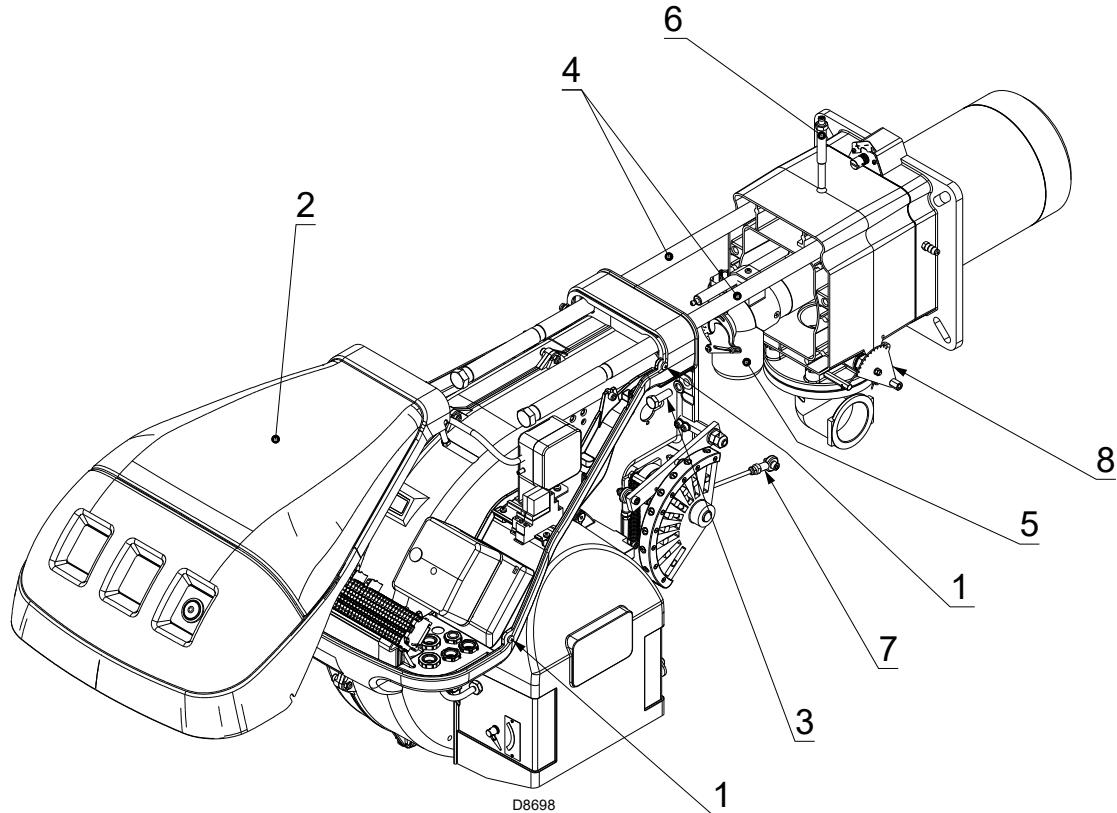

Fig. 38
Make sure that the gas outlet holes for the start-up, on the combustion head distributor, are free of dirt or rust deposits. If in doubt, disassemble the elbow 5)(Fig. 38).
- Loosen the screws 1)(Fig. 38) and remove the hood 2).